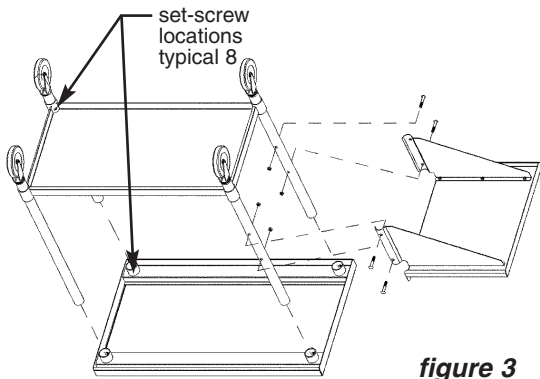

figure 3
- (3-a) Place tabletop into shipping carton upside-down to prevent damage to top. Invert the leg/caster/undershelf assembly and insert legs into leg gussets on bottom of table top. *See figure 3.*
- (3-b) Install side-shelf assembly by aligning the holes as shown. Insert a 3/8" - 16 x 2 1/2" bolt (4) into each hole, place 3/8" lock washer (4) on bolt, and thread a 3/8"-16 nut (4) onto each bolt. Tighten finger tight.
- (3-c) Thread a setscrew (4) into each leg gusset, and gently tighten with the provided allen wrench until finger tight.